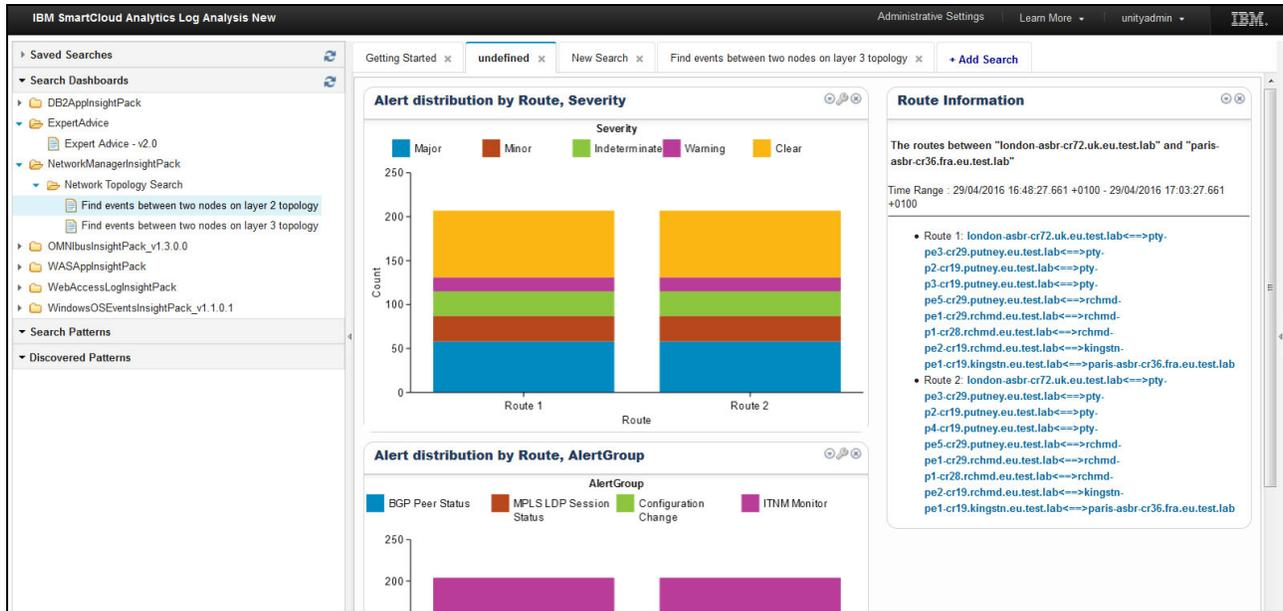

Figure 5-5 IBM SmartCloud Analytics - Log Analytics User Assistance
- The IBM Operations Analytics - Log Analysis console is shown. Tom can search the log files for keywords. Search results are displayed in a list or table format. Search results also are displayed in a distribution graph because he searched for events between two selected devices, as shown in Figure 5-5.